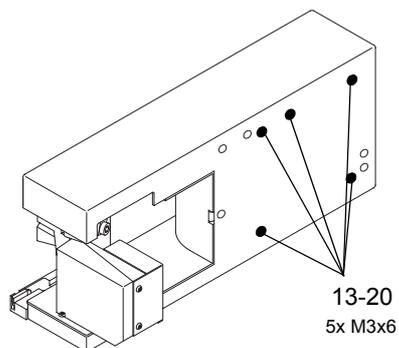

Figure 6-156 Y/B board fixing screws
- 5 Unscrew the Y/B board fixing screws (see Figure 6-156) in order to free the X-flex cable.